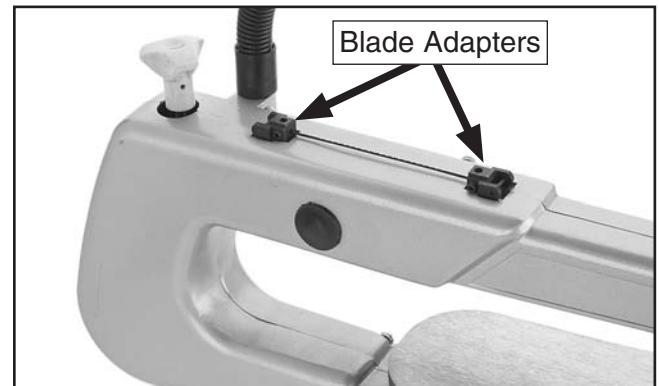

Figure 30. Blade with adapters inserted into indexing slots.
5. Place the adapters and the blade in the indents on the top arm, as shown in **Figure 30**, with the blade facing up.